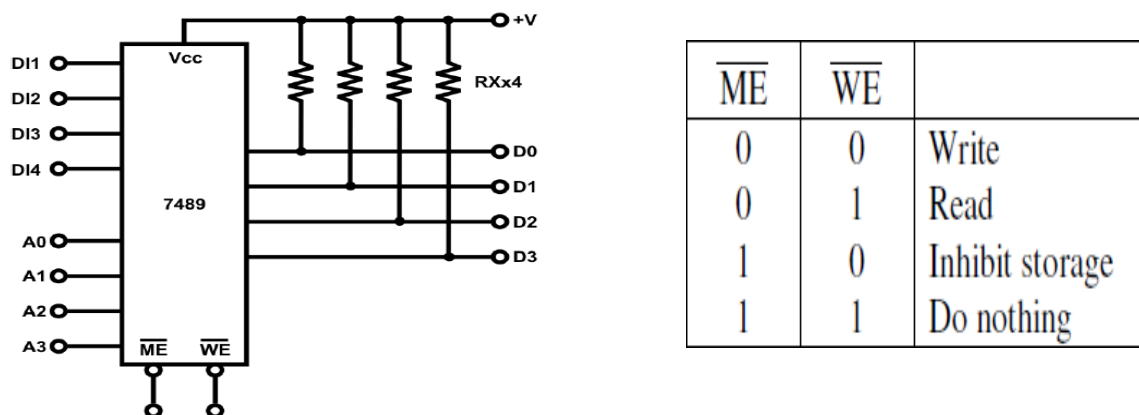

Figure 7.4: Block diagram of 16×4 RAM chip.
Figure 7.4 shows the 7489 IC, which is a 16×4 memory with 64 memory capacities. Also, its function table.
- When $\overline{ME}' = 0$ and $\overline{WE}' = 0$, the memory is enabled, and the input process starts. The input and output terminals are separated. The output terminals are open-collector type so resistors “RXx4” must be added to the supply voltage. Since the output terminal of 7489 is open-collector type, the outputs can be connected in parallel, as shown in Figure 7.4. The operating sequence will be controlled by $\overline{ME}'$ and $\overline{WE}'$.